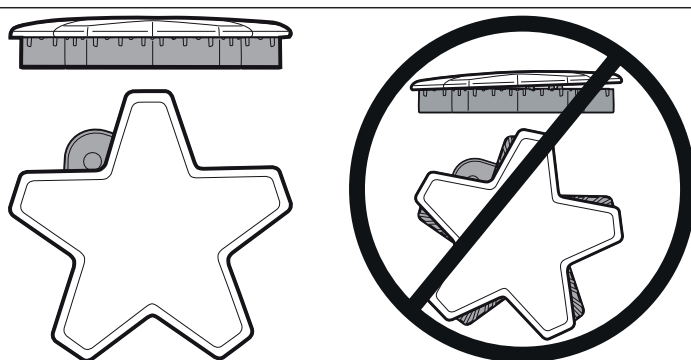

Figure 7: Correct and Incorrect Burner Cap Placement
- Check each burner to make sure there is no gap between the burner cap and burner base. See *Figure 7: Correct and Incorrect Burner Cap Placement* to see examples of correct and incorrect placements of the burner cap.
- You may gently try to move the burner caps from side to side to check if the caps are properly placed on the burner bases. When properly placed, each burner cap will rest flat on top of its burner base, and completely cover the star-shape of the burner base when viewed from the top as shown in *Figure 7*.